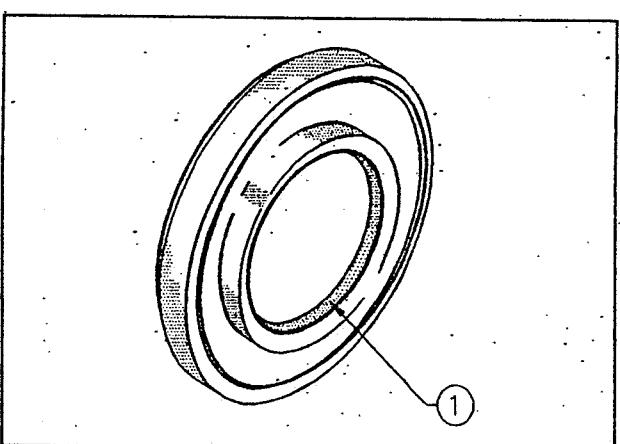

Fig. 3.55
Damage to the lip (1) of the oil seal (fig 3.55) may result in leakage of the mixture or oil. Inspect for damage and be sure to replace the damaged oil seals.